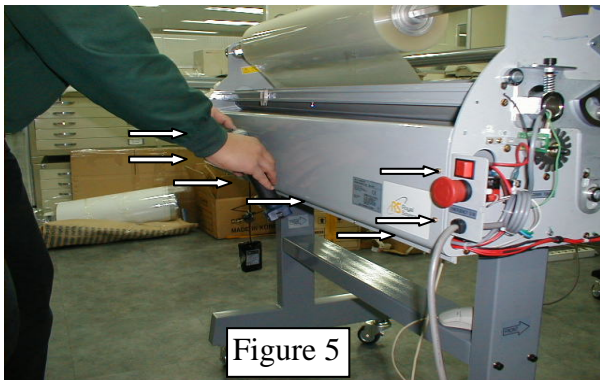

Figure 5
- b. Take out the seven screws from the back cover. Figure 5